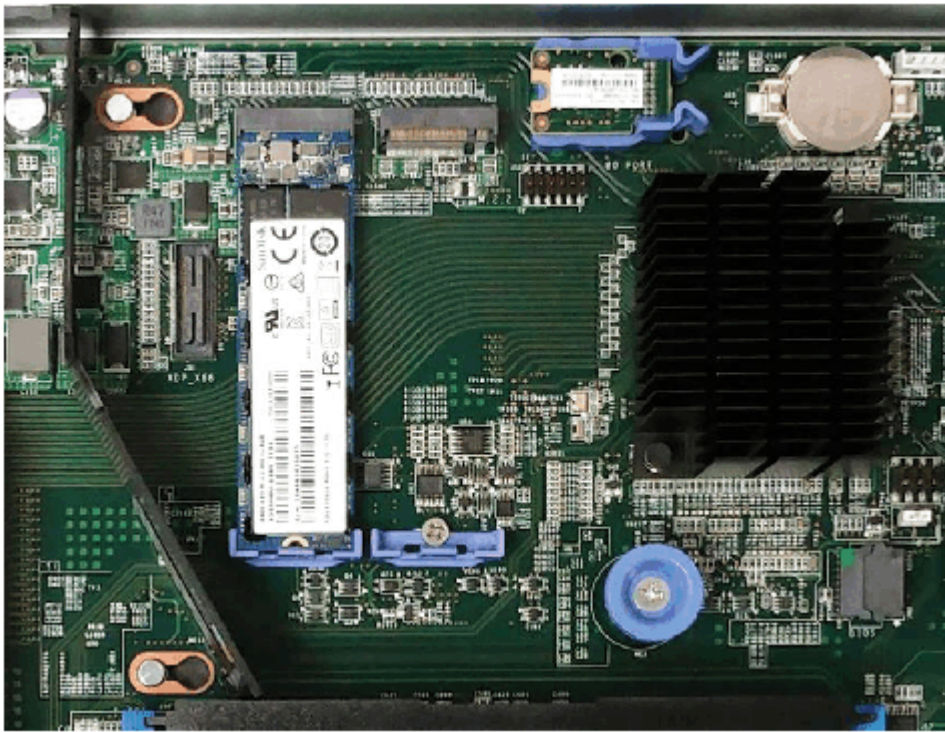

Figure 91. Locating the TPM
6. Locate the TPM, which is between the boot drive and CMOS battery, as shown in Figure 91 on page 141.